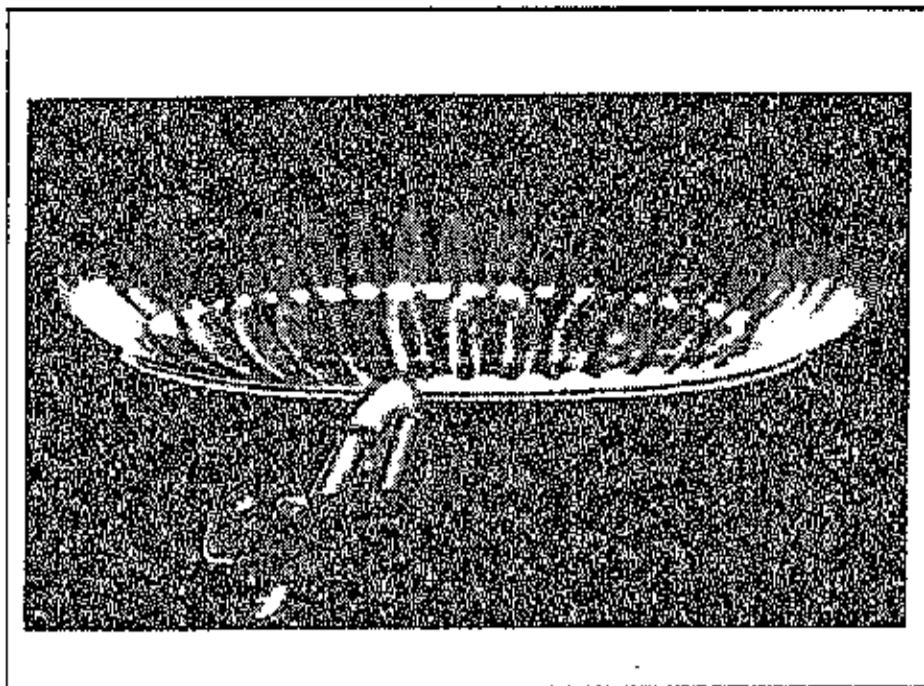

Figure 6. — Main Burner and Pilot Flame Pattern
- B. Visually inspect the burner annually while firing and pilot burner flame with main burner off. (Refer to Figure 6 for normal flame pattern.) If any unusual burner operation is noted, the water heater should be shut off until qualified service assistance can be obtained.